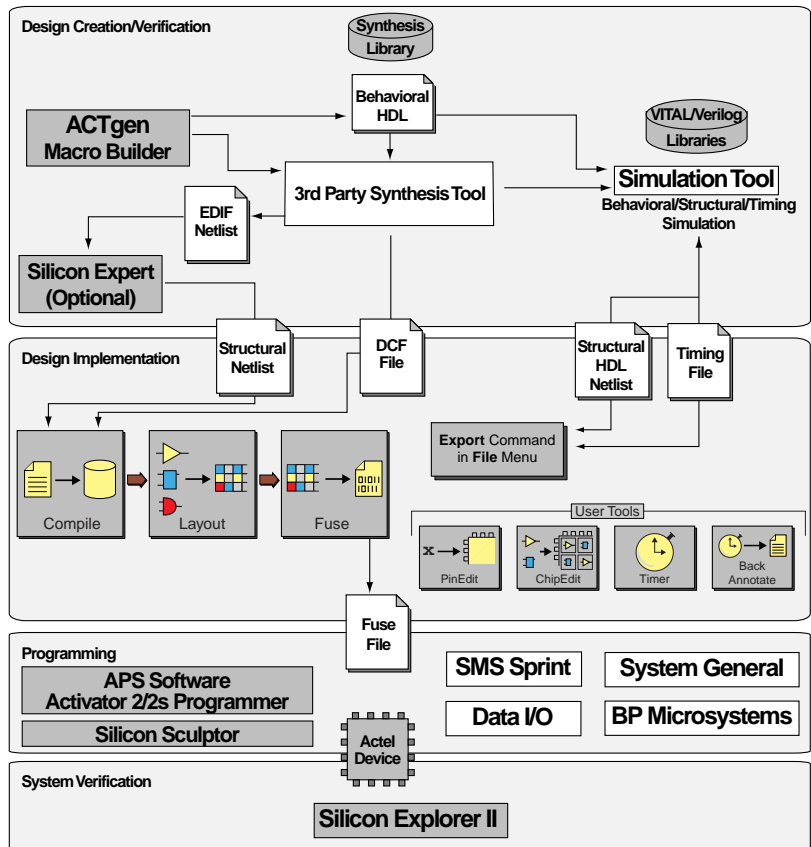

Figure 1-1. Actel HDL Synthesis-Based Design Flow
Figure 1-1 illustrates the HDL synthesis-based design flow for an Actel FPGA using third party CAE tools and Designer software1.
*1. Actel-specific utilities/tools are denoted by grey boxes in Figure 1-1.*